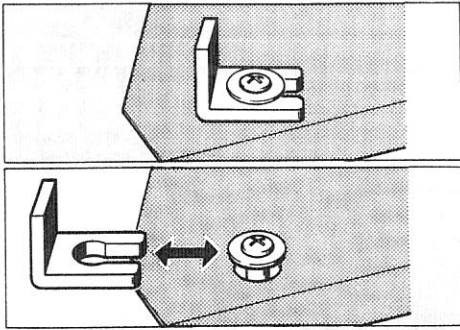

Fig. 1
- Entfernen Sie durch seitlichen Druck die beiden Transportsicherungen **15** (Fig. 1).
Unpack the unit and all accessories. Please keep the packaging for future use when transporting the device. Remove the two transport lockings **15** by pressing them side-wards (fig. 1).